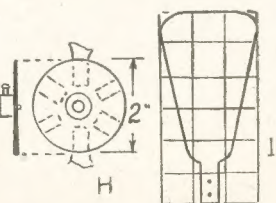

Fig. 4—Vane disc and shape
For the rotary windvanes, cut a disc of stout tin, or thin sheet brass, to size at (H), in Fig. 4. Centre this, drill a $\frac{1}{8}$ in. hole, and over the hole solder another brass collar, with screw. It may be mentioned that the collars and rod can be Meccano parts, and so solve the difficulty of both fitting the discs on, and trouble in obtaining the materials. To this disc the 6 vanes will be fixed, at equal distances apart, as shown by the dotted outlines.